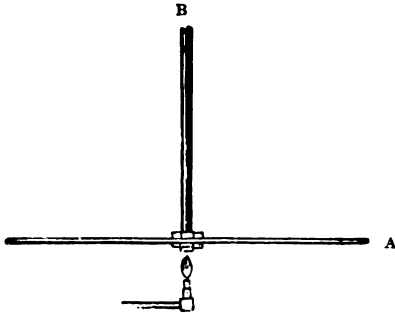

Fig. 2.
Mr. Schoof describes a very cheap way of making an oven. To the middle of a thin iron plate (A Fig. 2) he fastens an iron tube (B), long enough to go right through a wooden box of the height the oven is to be, the iron plate being under the bottom of the box. The front of the box is formed into a door with double panes of glass as just described. A very small flame from a gas or oil lamp suffices to keep the highest temperature required for compensation adjustment. The one objection to the use of iron in the construction of a oven, is its liability, after hammering or rolling, to retain magnetism.